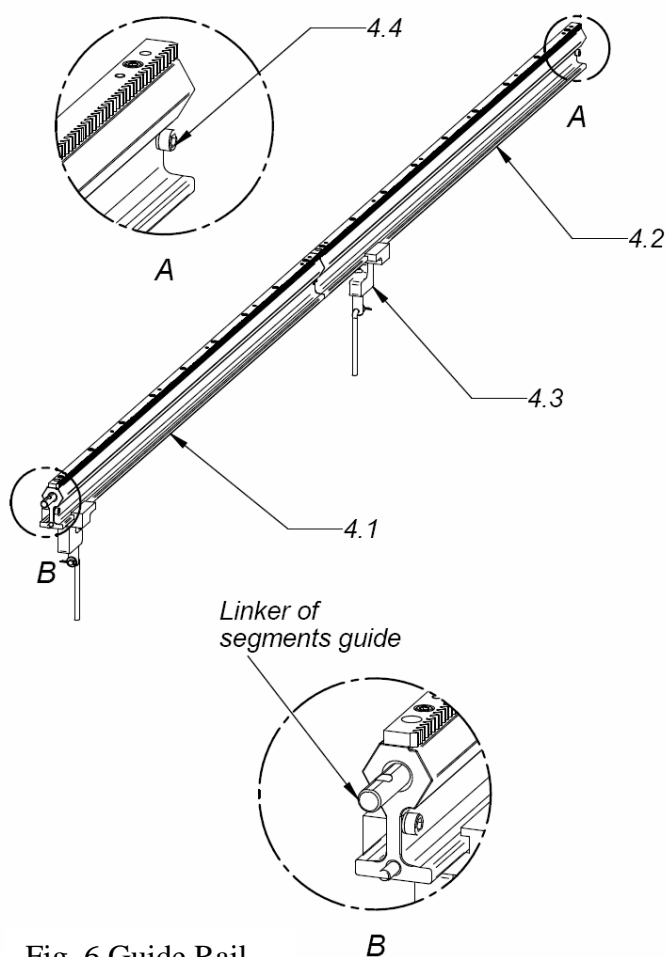

Fig. 6 Guide Rail
Each time before start up of the machine, insure the presence of protective screws at both ends of guide (see item 4.4 at fig. 6)